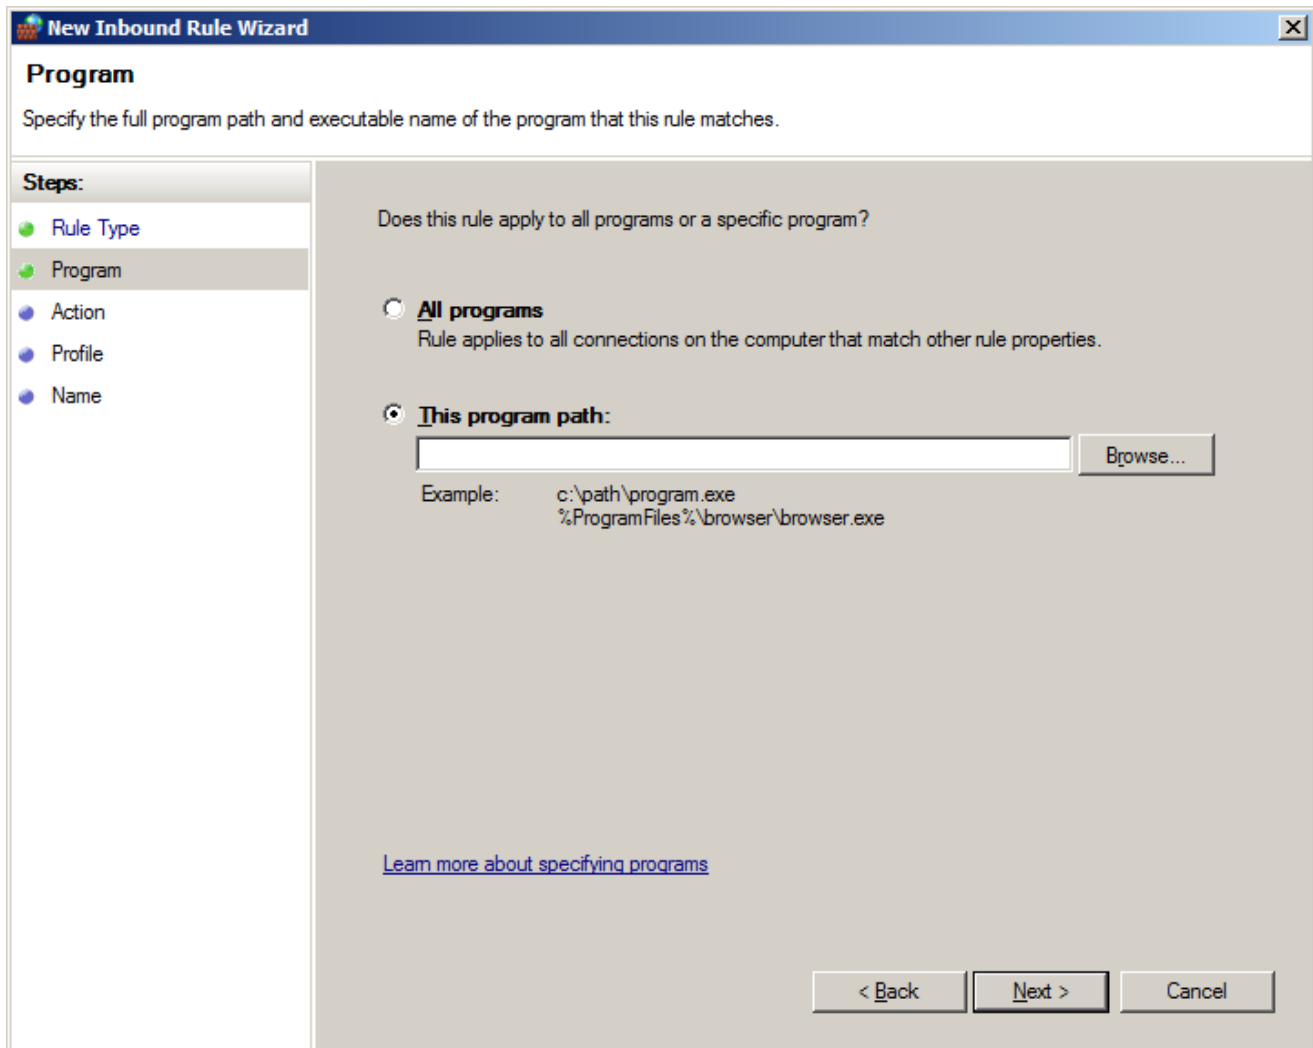

Figure 2-55. New Inbound Rule Wizard – Program page
- On the Program page (see *Figure 2-55*), you can add Object Server to the list of authorized communicators through the Windows Firewall. Click the **Browse** button next to the **This Program Path** field to locate the Bristol OPC Server (**BristolOPCServer.exe**).